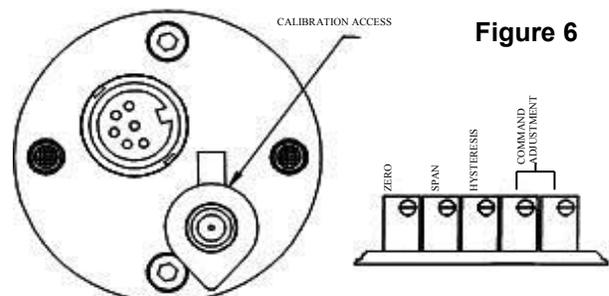

Figure 6
4. Locate the calibration access cap on top of the GP valve and locate the ZERO and SPAN adjustment potentiometers (figure 6).